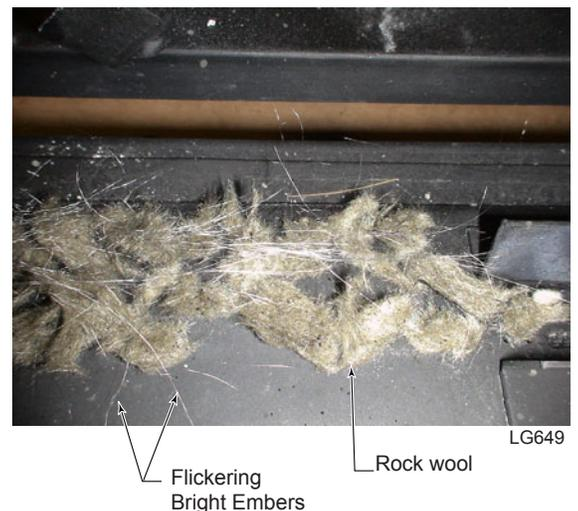

Figure 17 - Place Flickering Bright Embers
2. Place flickering bright embers (FBE-.1G) before placing logs on burner. Pull embers apart into small strands and place on top of existing rock wool on both sides of burner from the air deflectors to the end of each burner where they can be seen. Try to avoid stacking these embers on top of each other. Use smaller strands for maximum effect. Use as much as needed to achieve desired effect. *Figure 17*